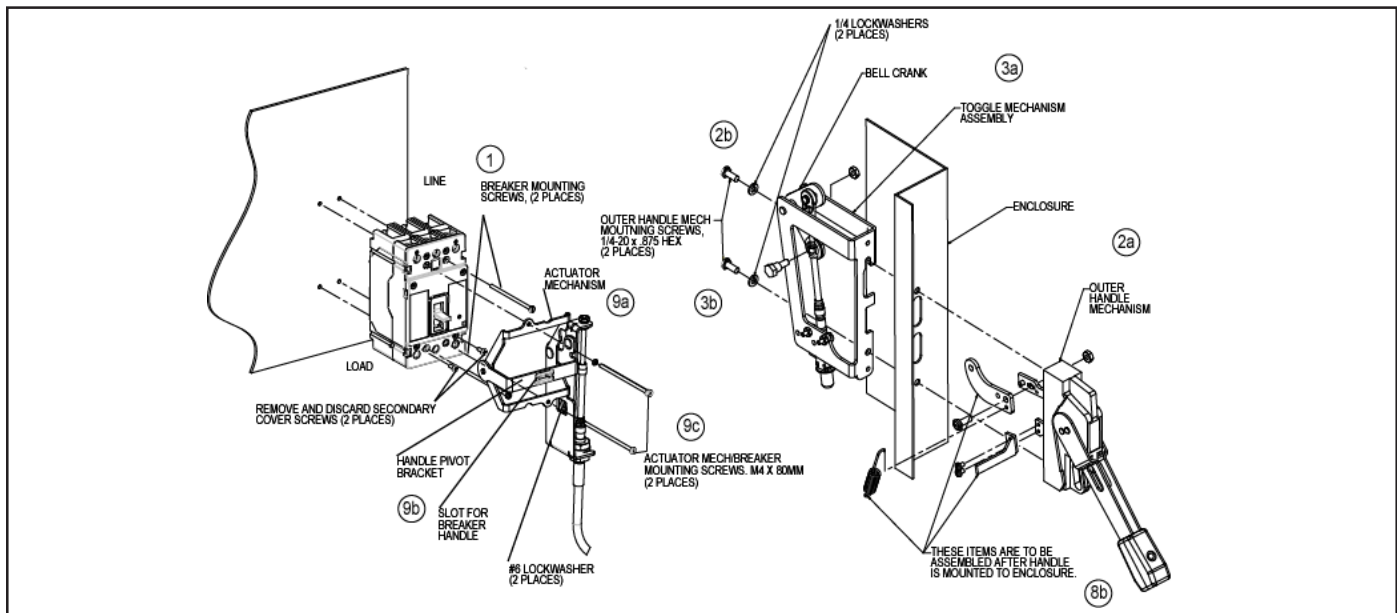

Fig. 1-1 Securing Actuator Mechanism to Breaker and Toggle Mechanism and Handle to Enclosure.
For assembly steps, refer to Fig 1-1, unless otherwise noted.
8. Remove and discard the two secondary cover screws shown in Fig 1-1. Verify that breaker is in the trip position. Put outer handle mechanism in the trip position for ease of mounting actuator mechanism.
9. Place actuator mechanism around the front of the breaker. See Fig 1-1. Orient handle pivot bracket so that the slot captures the breaker handle. Fasten securely with the two M4 x 80mm actuator mech/breaker mounting screws and lockwashers, as shown.